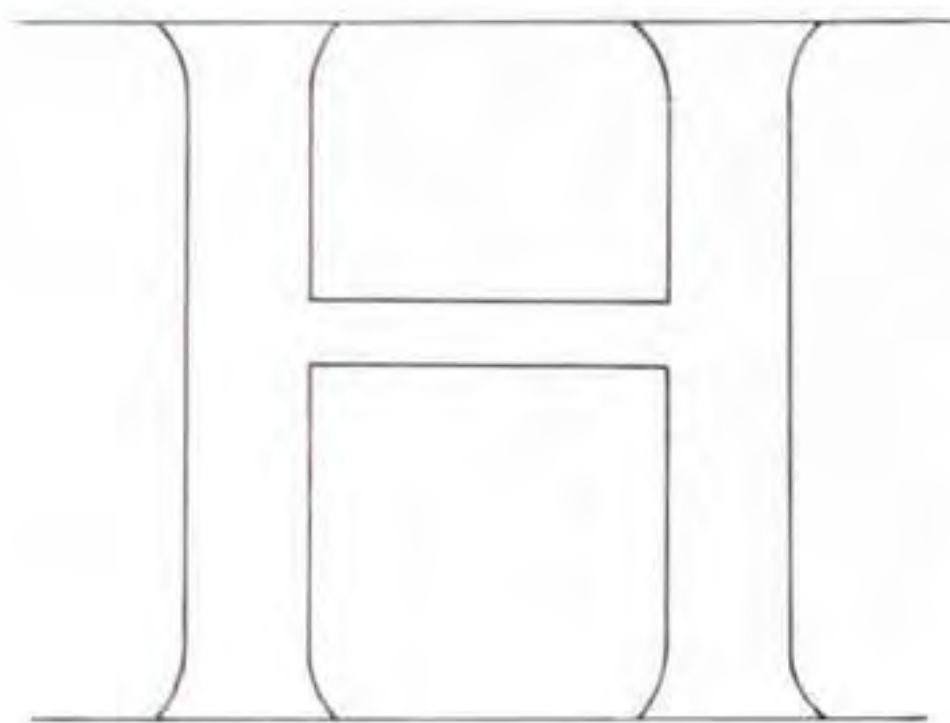

Fig 8.50 Layout for **H**. Letter height for exercise : 50mm.
- 1 Draw out the cap and base lines, and the letter **H** (see Fig 8.50).